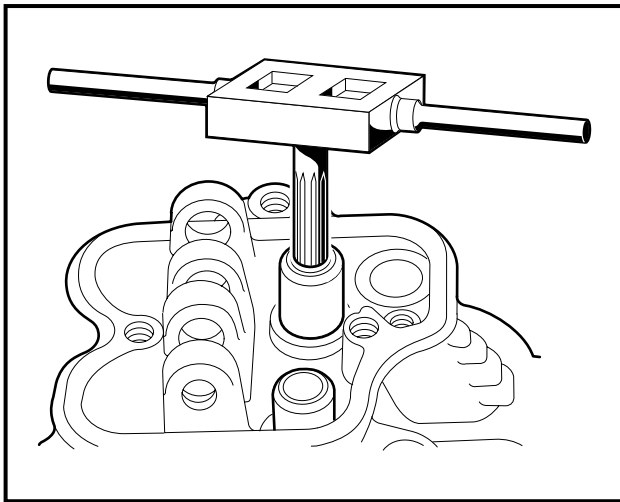

Figure 2-17 Ream Valve Guide
5. Ream the guide with a stanisol or kerosene lubricant and a valve guide reamer (CCI P/N 101641201). The valve guide inside diameter should be 0.2756 - 0.2762 inch (7.000 - 7.015 mm) (Figure 2-17, Page 2-11).